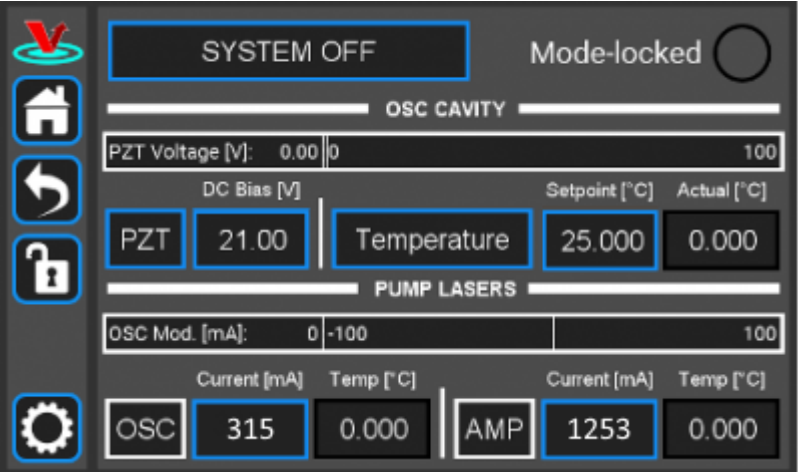

Fig. 14: The FFC-100 GUI in off state
1. Touch the "System Off" button at the top of the front panel screen (figure 14) to bring up a